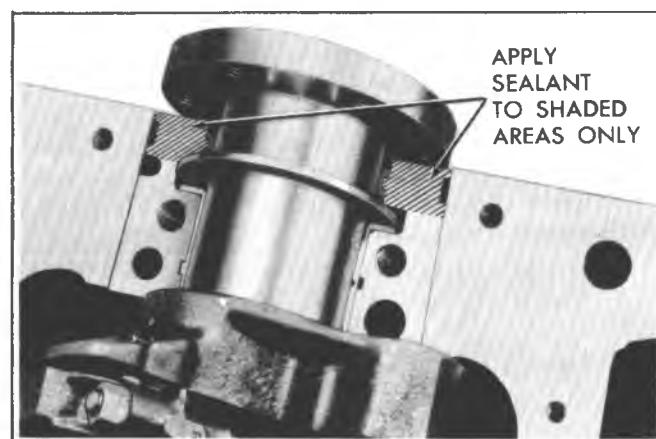

Fig. 6A4-60-Sealing Bearing Cap
5. Apply a thin coat of brush-on type oil sealing compound to block mating surface and corresponding surface of cap only (fig. 6A4-60). Do not allow sealant on crankshaft or seal.